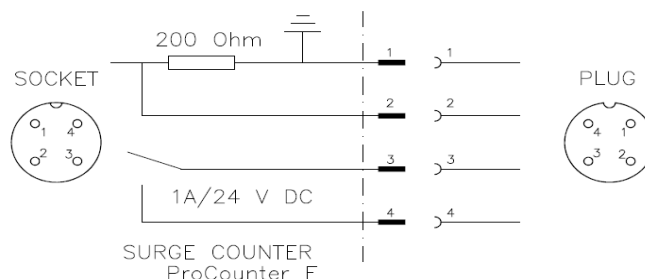

Fig.1 Scheme of connecting socket and plug (view of socket and plug from the connection side – frontside) – ProCounter E
Before beginning to install, make the visual inspection of delivered surge counters. Don't install damaged surge counters and in this case please contact with supplier, immediately. Please also take into account descriptions on fig.1.
- mounting surge counter on the structure by bolt M12 with washer and nut (see on fig. 1) to be immobilised
- For version E pay special attention for correct connect line in plug (Fig. 1), which be working with counter socket. Pins no. 1 and 2 are used only to diagnostic surge arrester, to eventually connect the leakage current analyser, multimeter or oscilloscope. Diagnostic could be perform after earlier disconnecting the line with plug connect pins 3 and 4 and mounting new plug on time of diagnostic with connect pins 1 and 2 with line and ending to leakage current analyser, multimeter or oscilloscope.